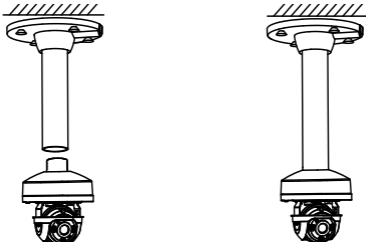

Figure 2-16 Fix the Junction Box with Pendent Bracket
- Fix the junction box with the bracket by rotating the box, as shown in Figure 2-16.